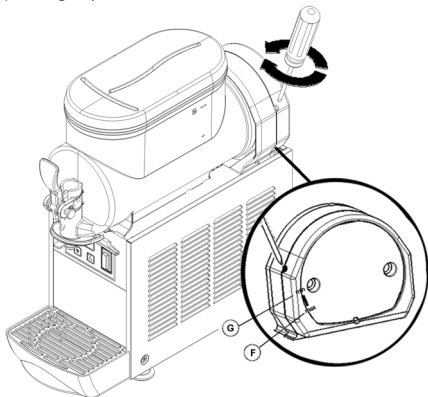

figure 4
- 1 Granita viscosity adjustment:** proper Granita viscosity is factory preset. To change the viscosity, if needed, use a standard screwdriver to turn the adjustment screw located in the rear wall of each container as follows (see figure 4):